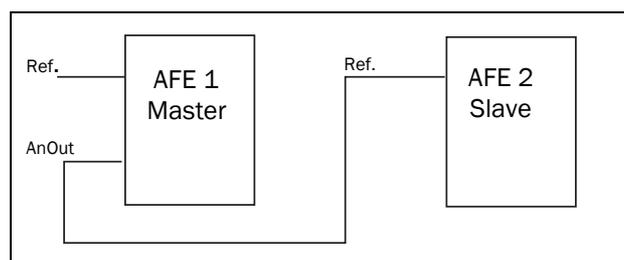

Fig. 66
- a reference signal for the next AFE in a Master/Slave configuration (see fig. 66).